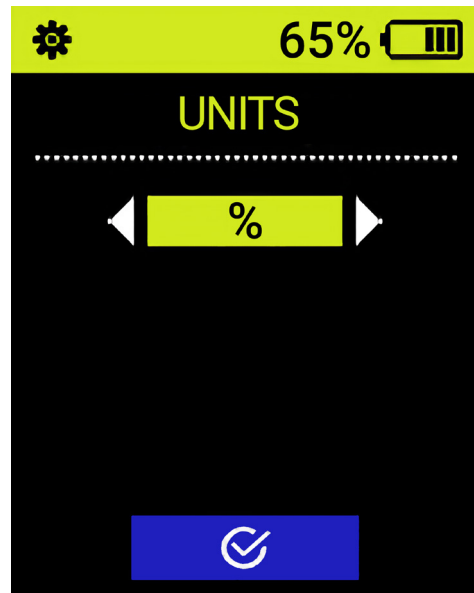

Figure 5
This menu item (shown in Figure 5) allows to select the units of measurement: percentage (%) or ferrite number (FN).